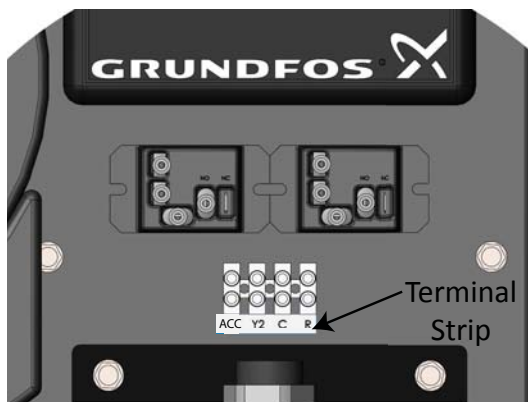

Figure 3: Low Voltage Wiring
4. Wire low voltage connections. For flow rate control (flow sensor), connect using 18 gauge 4 conductor thermostat wire to terminals ACC, Y2, C, and R from the heat pump to the terminal strip (Figure 3). For temperature control (ΔT), connect ACC, C, and R (Y2 not needed). If included, plug in cable to flow sensor (cable is pre-wired to controller).